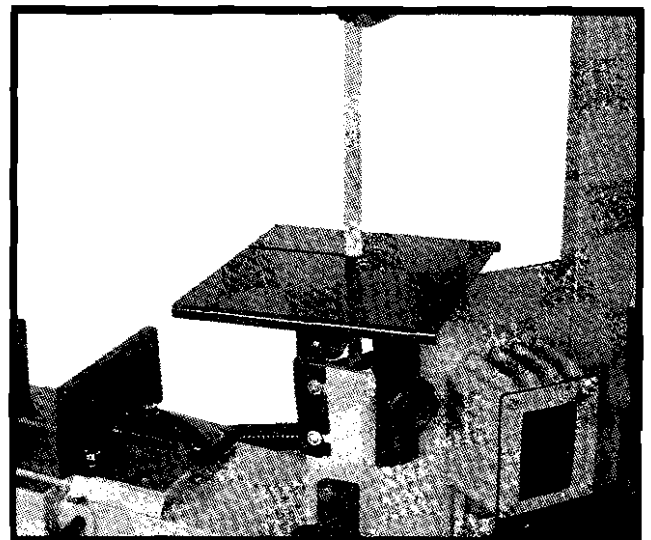

**Fig. 3**
3. Remove two screws (A, Fig. 3) and remove the deflector plate (B).